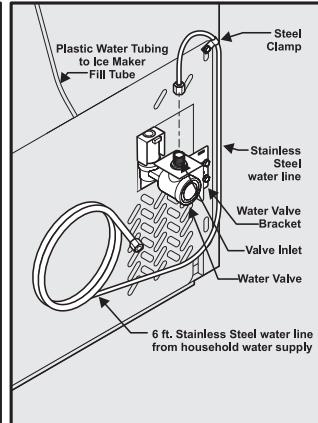

Figure 2
- If you use stainless steel tubing** - The nut and ferrule are already assembled on the tubing. Slide compression nut onto valve inlet and finger tighten compression nut onto valve. Tighten another half turn with a wrench; DO NOT over tighten. See Figure 2.